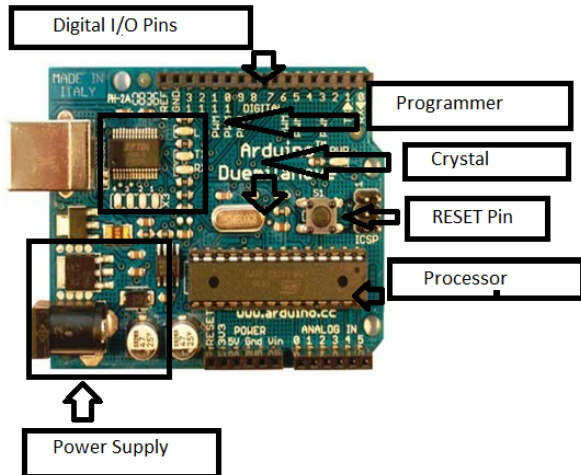

Fig. 1: This figure shows the hardware of Arduino development board
Arduino platform is based AVR (Advanced Virtual RISC Processor) development board. AVR microcontroller – 8-bit RISC (Reduced Instruction Set Controller) single chip microcontroller, is a modified Harvard architecture. AVR was discovered by Atmel in the year 1996. Arduino development board consists of numerous of ATmega AVR family including ATmega8, ATmega168, ATmega328, ATmega1280 and lots more. See fig1.
For working faultless, Arduino development board needs 12V DC supply that can easily provided by a power adapter. This simple power supply circuit consists of rectifier circuit, filter capacitor and voltage regulating IC. See fig1.
You should need a FTDI (Serial-to-USB) cable which will establish a connection of Arduino development board with computer. See fig1.
When the software jumps into endless loop (that will never end) then user can directly press the RESET button. After pressing the RESET button, the whole system restarts itself. This special feature helps new users in any kind of complexity. See fig1.
For connecting any of output devices including sensors, LCD (Liquid Crystal Display), LED (Light Emitting Device), DC motor, touchscreen and many more devices digital input/output pins are available. See fig1.
For burning of codes into any of the ATmega chips, we need programmer. Programmer is a special kind of device which is specially designed for burning the target IC. Arduino development board has on-board programmer resulting reducing extra hardware. See fig1.
For converting the frequency into clock we need crystal. Normally we need 11.0592 MHz crystal. In addition to this, some board also consists of 9 MHz, 6 MHz and 12 MHz crystals. See fig1.
Step1: Directly open Arduino Software by double click at the Arduino icon. See fig1: